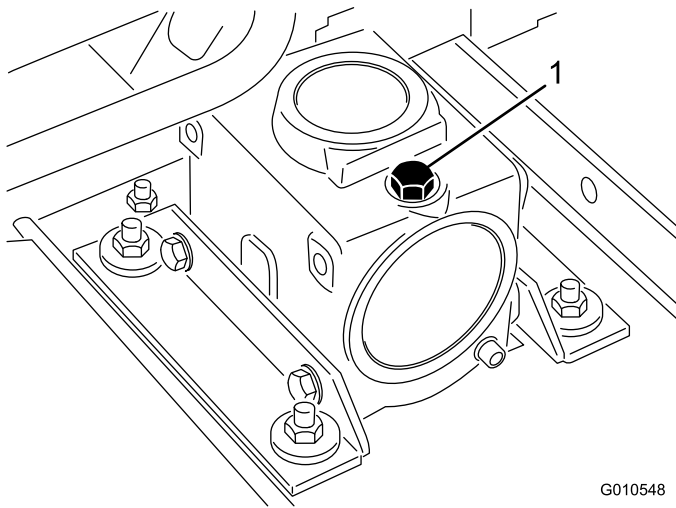

Figure 24
2. Position the machine and cutting unit on a level surface and lower the cutting unit. Remove the dipstick/fill plug from the top of the gear box (Figure 24) and make sure that the lubricant is between the marks on the dipstick. If the lubricant level is low, add SAE 80-90 wt. gear lube until the level is between the marks. The gear box capacity is 12 oz. (283 ml).